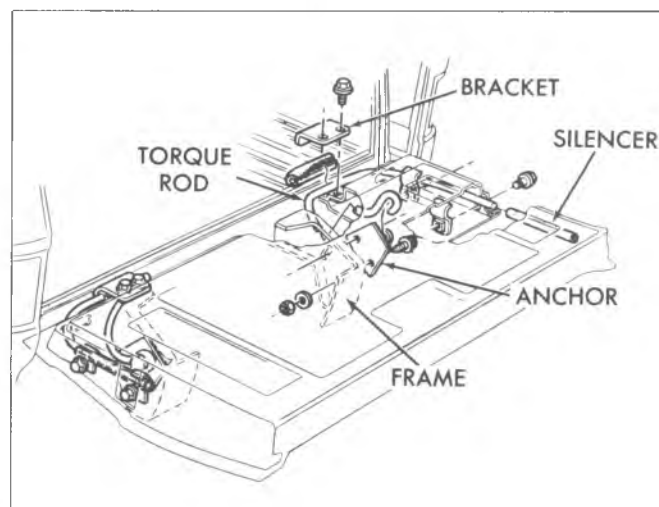

Fig. 59—Torque Rod Installation (14)
2. Disconnect torque rod anchor plate on each side. It is necessary to remove lower bolt only, then let plate swing down. See figure 59.
2. Disconnect torque rod anchor plate. It is necessary to remove the lower bolt only, then let plate swing down. See figure 59.
5. Remove torque rod retaining bracket on lower edge of endgate. See figure 59.